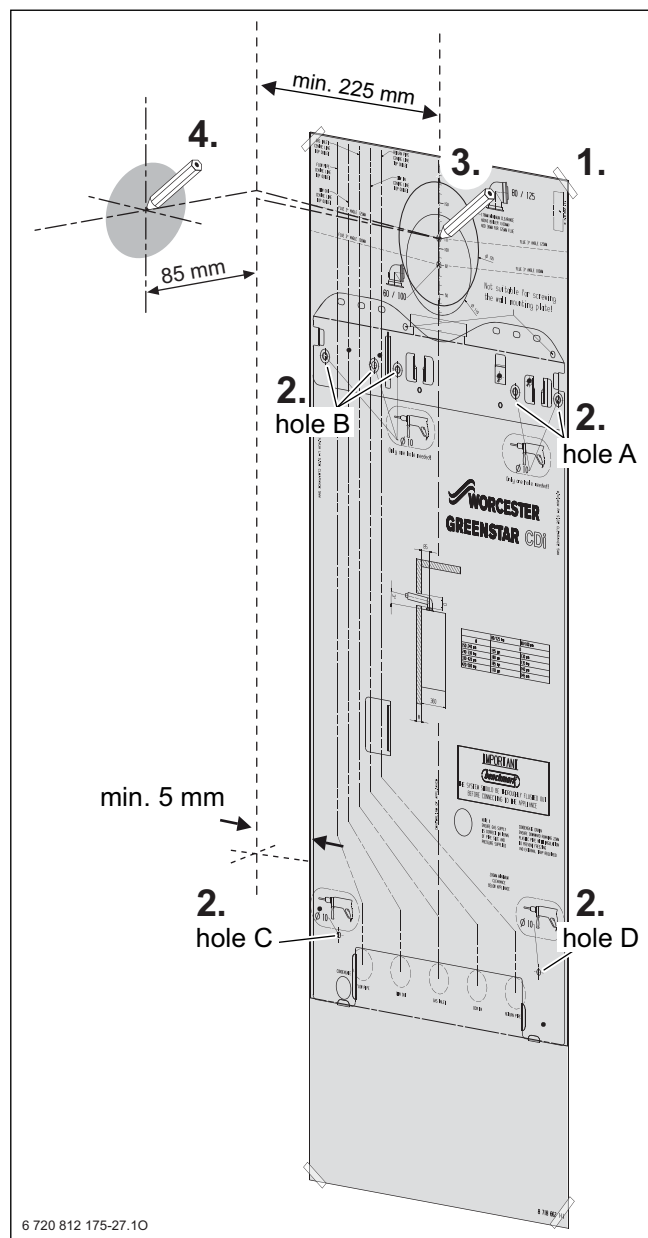

Fig. 22 Mounting template
- Fig. 22 shows the relative positions of the flue and the fixing of the wall mounting plate, the hanging bracket and pre-plumbing manifold.
- Follow the Fig. 22 to mark the centre of the flue for rear outlet (3) or for side outlet (4).